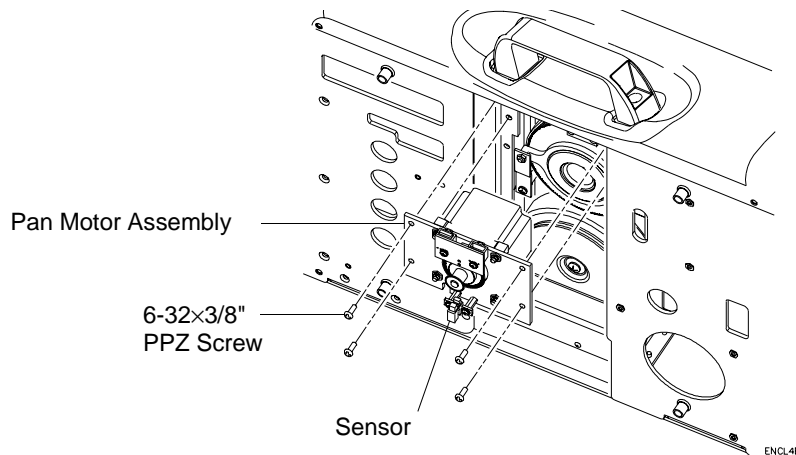

Figure 2-27: Pan Motor Assembly Replacement
Step 5. At pan motor assembly, remove four 6-32×3/8" PPZ screws. **Figure 2-27**.